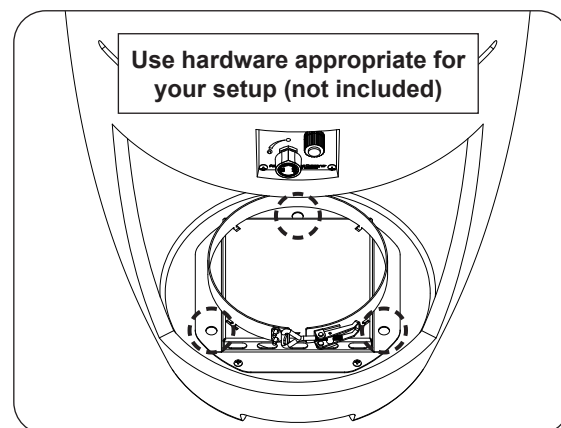

Fig. 19-4 Mount urn to floor
4. Using appropriate mounting hardware for the floor material/construction, secure the urn into the floor. The interior of the urn has three $\frac{1}{2}$ " holes that will allow for the urn to be fastened to the floor. See Fig. 19-4.